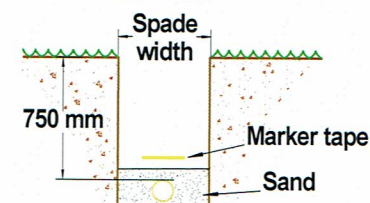

Fig 16
- 750mm under roadways and grass verges and elsewhere. Lesser cover may be approved by a competent person if experience indicates that the proposed location gives rise to a negligible risk of interference damage (Fig 16).